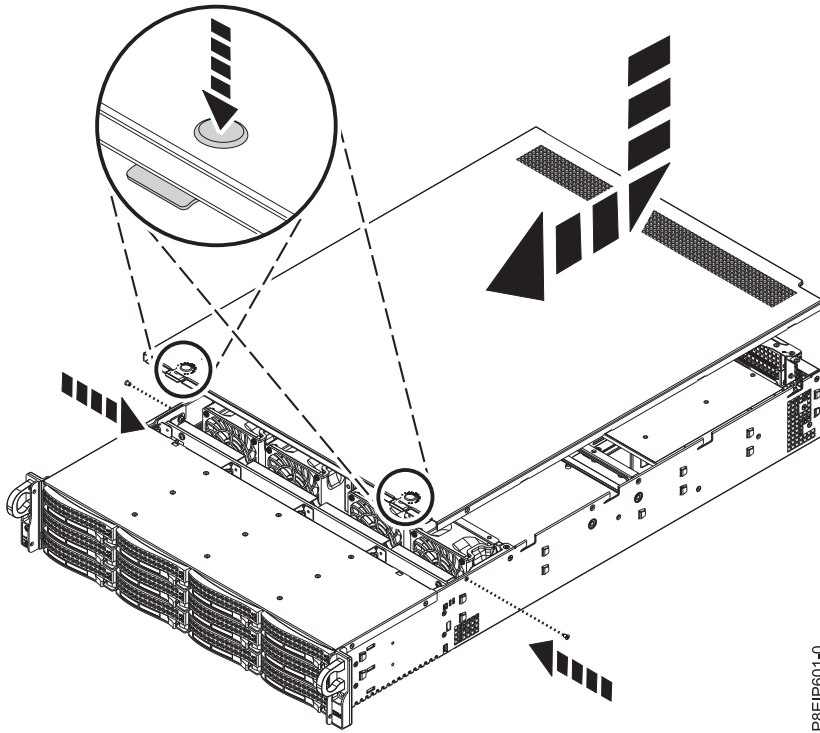

Figure 65. Replacing and securing the cover
- Slide the cover forwards until it latches into place as shown in Figure 65.